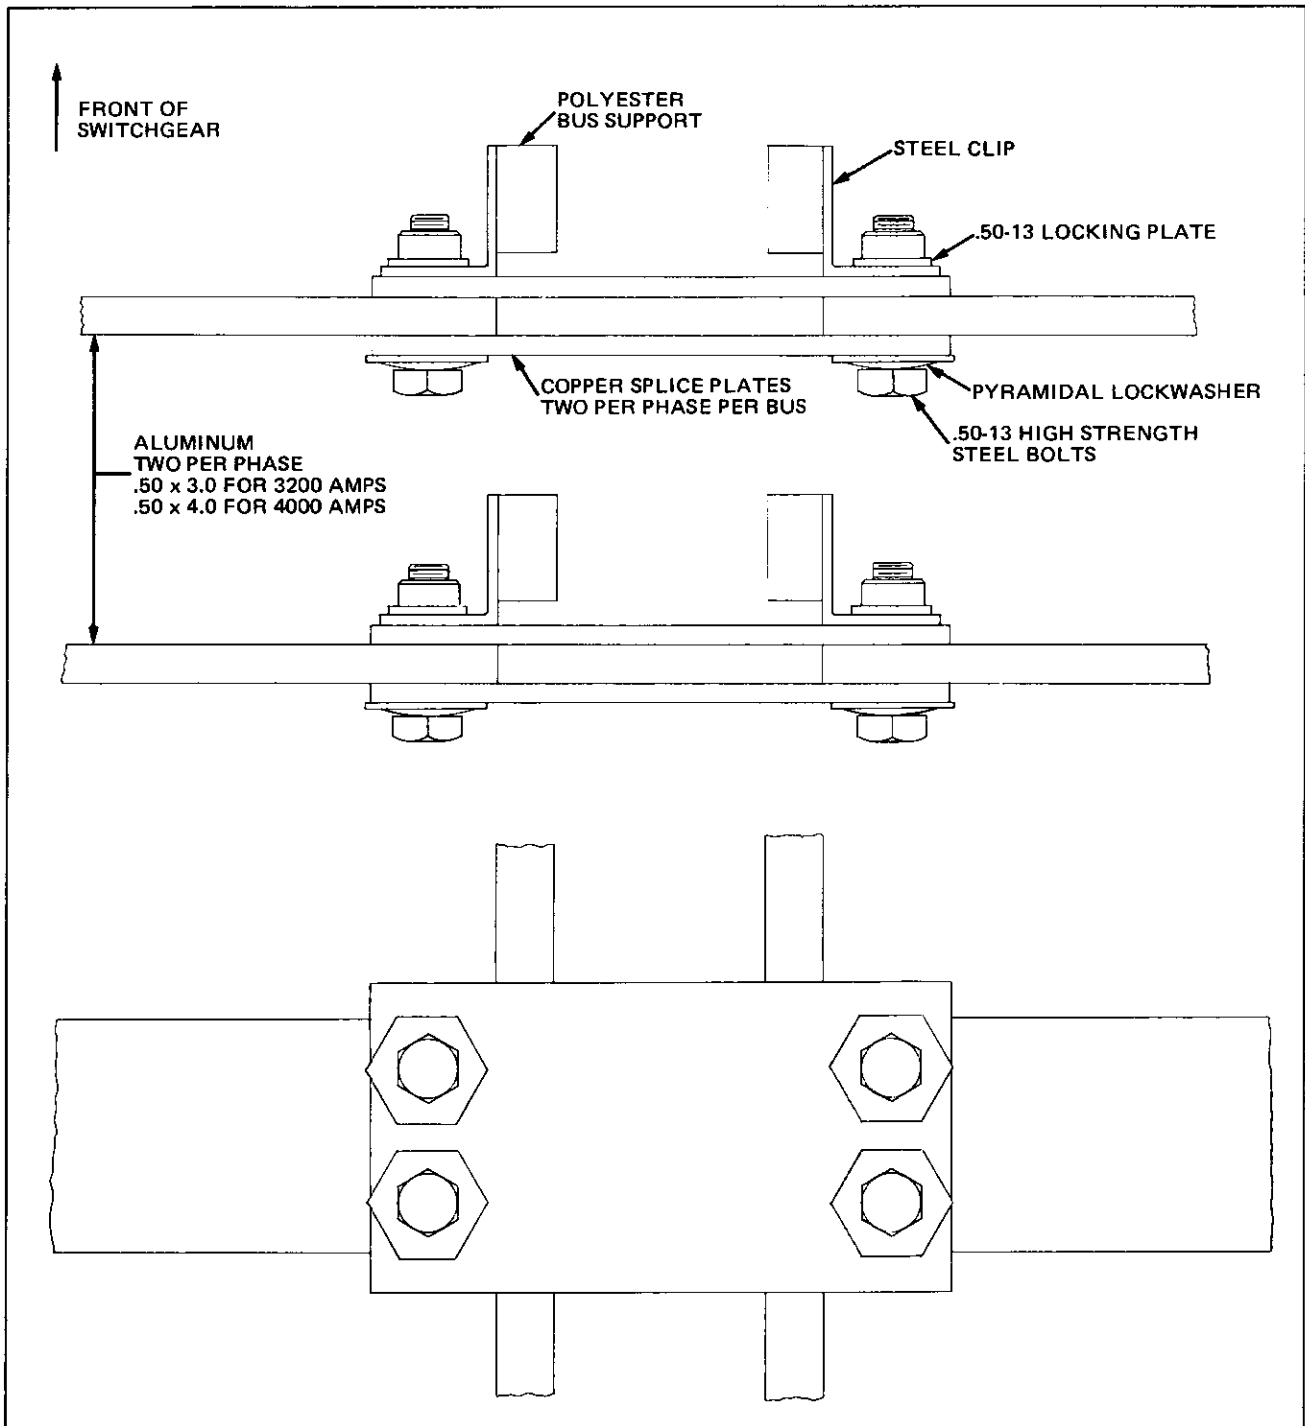

Fig. 38 Field Assembly of Joints in 3200/4000 Amp Aluminum Bus
2. 3200 Amp Aluminum Bus - Fig. 38.
3. 4000 Amp Aluminum Bus - Fig. 38.